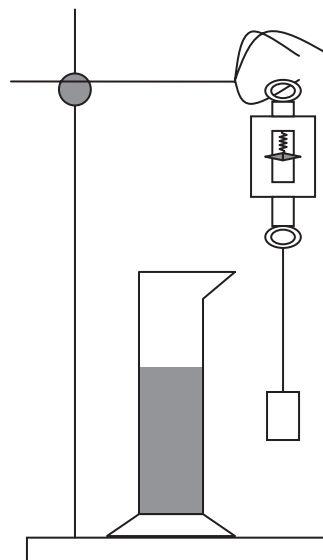

Fig. 4.1
- (a) Taking into account the systematic error determine the **actual** weight of the object. You should place the thread attached to the object to the lower end of the spring balance and allow it to hang freely. See Fig. 4.1.